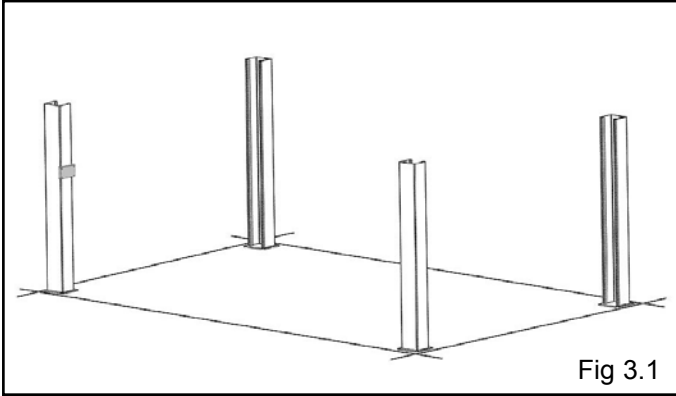

Fig 3.1
1. Place a chalk line on the floor according to the floor plan layout. Pay attention to the Power Unit location. Locate and stand the Columns at their respective locations. DO NOT BOLT Columns down at this time. Use caution to prevent the Columns from falling over. (See Fig. 3.1)